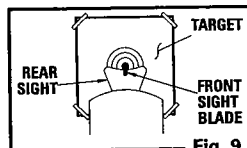

Fig. 9
- The air rifle is correctly aimed when the front sight blade is positioned exactly in the notch of the rear sight. The top of the front sight blade should be even with the top of the notch in the rear sight. The bullseye should appear to rest on the top of the front sight. (Fig. 9)